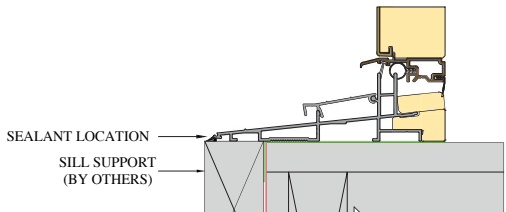

FIG. 23: STANDARD DOOR SILL
- B) Attach a sill support block beneath the sill. Apply a bead of sealant at the nose of the sill and support block. (Fig. 23)